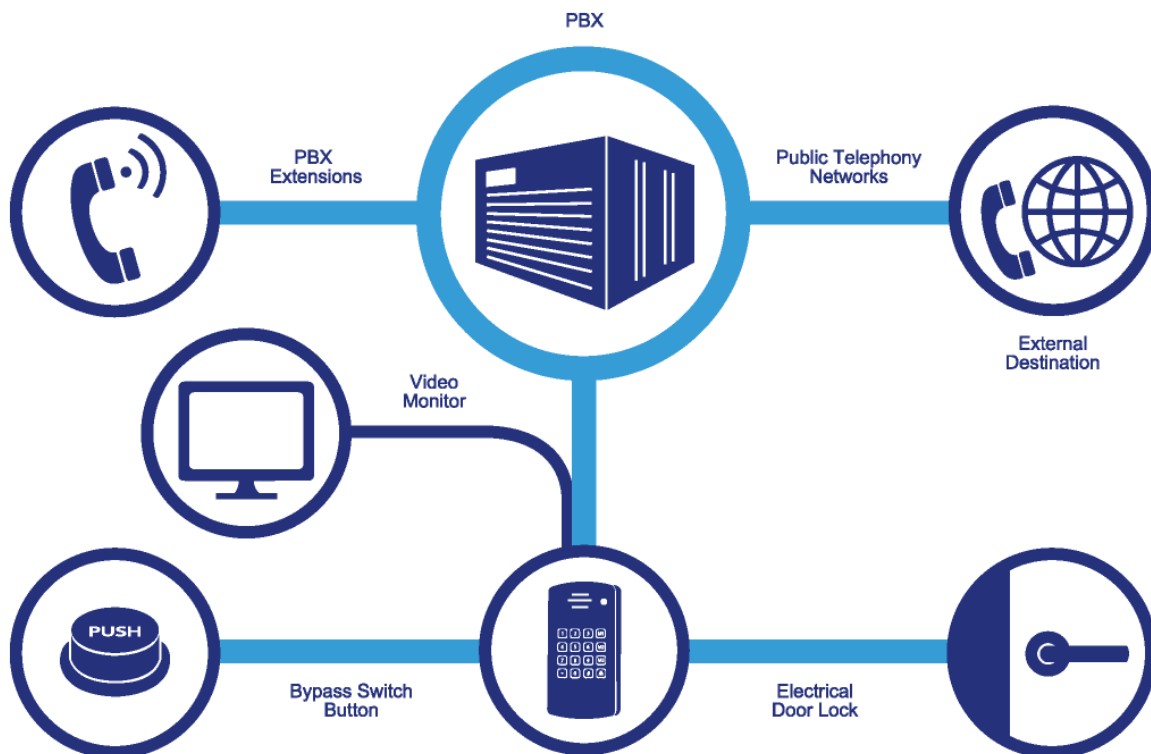

Figure 6-1 Door Phone wall installation
3. Attach rubber mat on the wall and then metal installation wall bracket using the provided wall screws. (See Figure 6-1). The rubber mat shall be directed to a wall with the rugged side.
Video camera installs on the SD-40X metal installation bracket (See Figure 6-1)